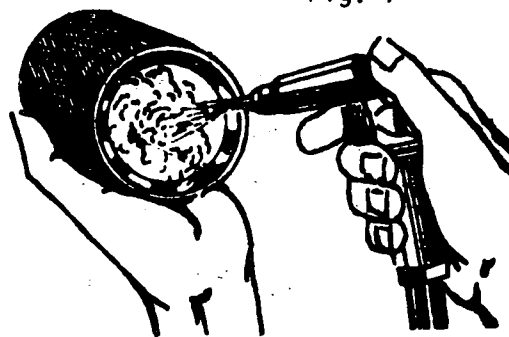

Fig. 8
- b) Clean the element (Fig. 8) or change it if necessary. Follow the operator's manual.